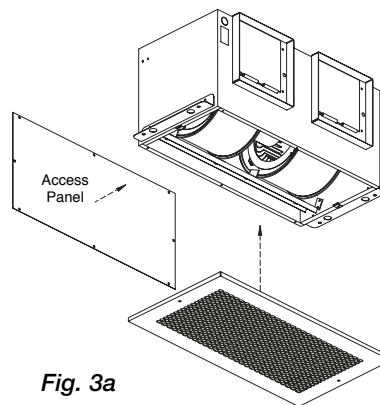
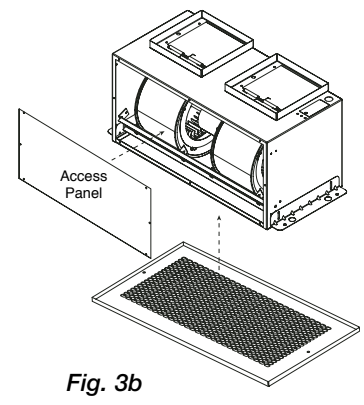
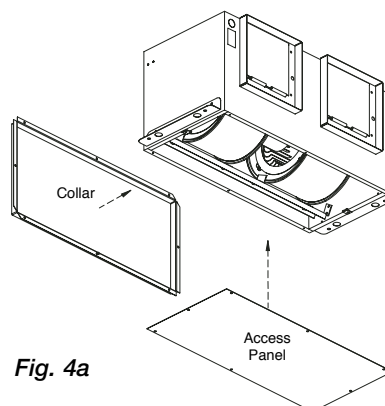

Fig. 3a
Fig. 3b
Fig. 4a
3. To rotate from horizontal to vertical discharge, remove the eight screws holding the cover panel as shown in Fig. 3a (for the CSP model remove the eight collar screws as shown in Fig. 4a). Then rotate the fan housing so the discharge is facing up, shown in Fig. 3b. Replace the cover panel as shown in Fig. 3b and replace the screws (for the CSP model attach the collar and its screws as shown in Fig. 4b).